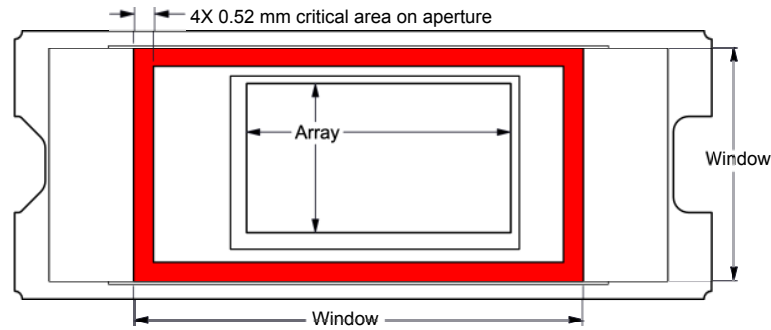

Figure 6-1. Illumination Overfill Diagram - Critical Area
- (16) The average over time (including storage and operating) that the device is not in the elevated dew point temperature range.
- (17) Exposure to dew point temperatures in the elevated range during storage and operation should be limited to less than a total cumulative time of CTELR.
- (18) The maximum marginal ray angle of the incoming illumination light at any point in the micromirror array, including Pond of Micromirrors (POM), should not exceed 55 degrees from the normal to the device array plane. The device window aperture has not necessarily been designed to allow incoming light at higher maximum angles to pass to the micromirrors, and the device performance has not been tested nor qualified at angles exceeding this. Illumination light exceeding this angle outside the micromirror array (including POM) will contribute to thermal limitations described in this document, and may negatively affect lifetime.
- (19) The active area of the device is surrounded by an aperture on the inside of the DMD window surface that masks structures of the DMD device assembly from normal view. The window aperture is sized to anticipate several optical operating conditions. Overfill light directly illuminating the window aperture can create adverse imaging effects, and additional device heating leading to reduced device lifetime. Direct incident illumination should be prevented from striking the DMD window aperture.
- (20) Applies to the region in red in Figure 6-1, at the inside plane of the glass window where the physical aperture is located.